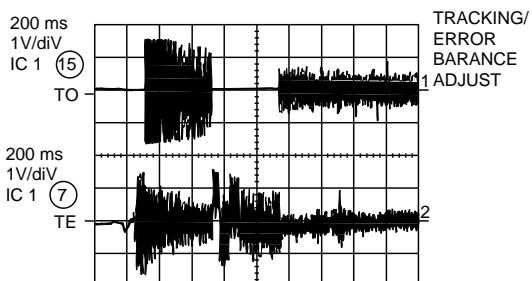

Figure 11-3
3. E/F balance (tracking error balance) (Fig. 11-3)